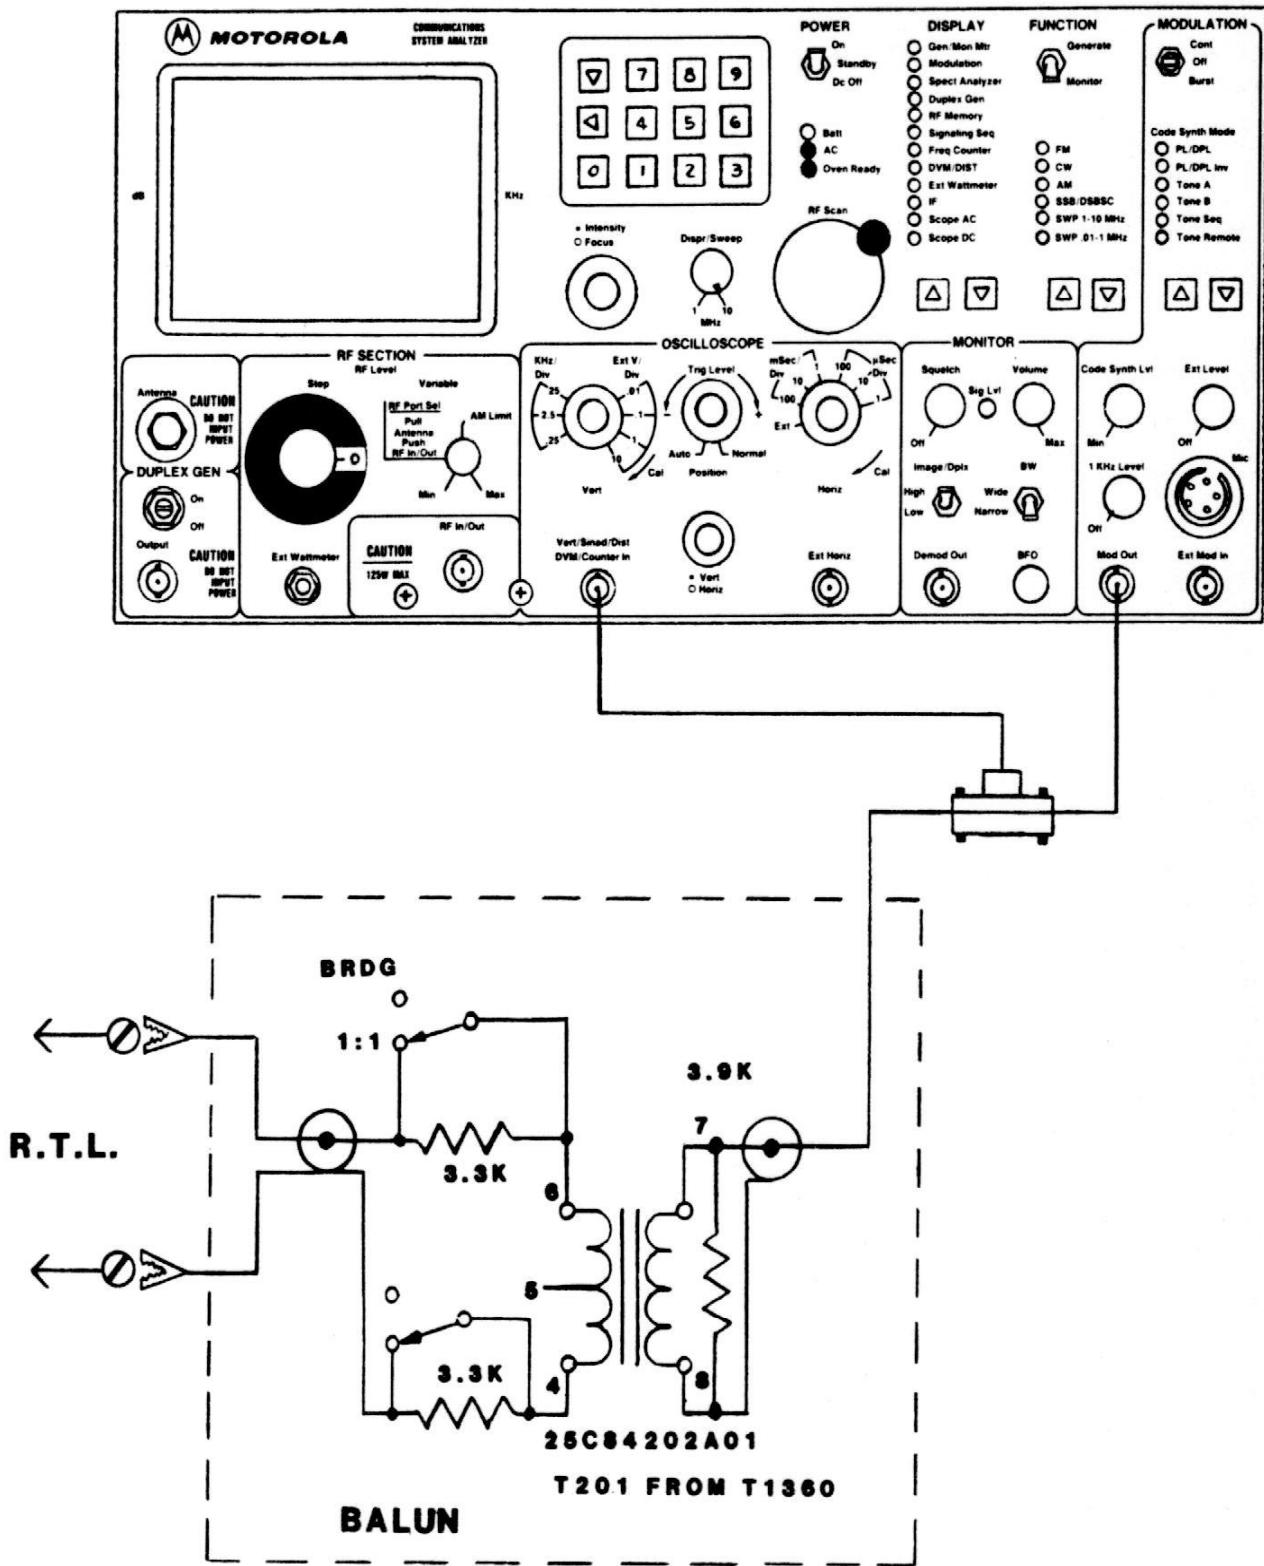

FIGURE 4-19. BALUN SETUP; GENERATING SIGNALS
1. Connect the BALUN's balanced side (600 ohm) to the phone line, as shown in figure 4-19. Disconnect any other equipment (consoles, etc.) connected to the line. Connect the BALUN's unbalanced side to the Mod Out - DVM/Counter In jack.